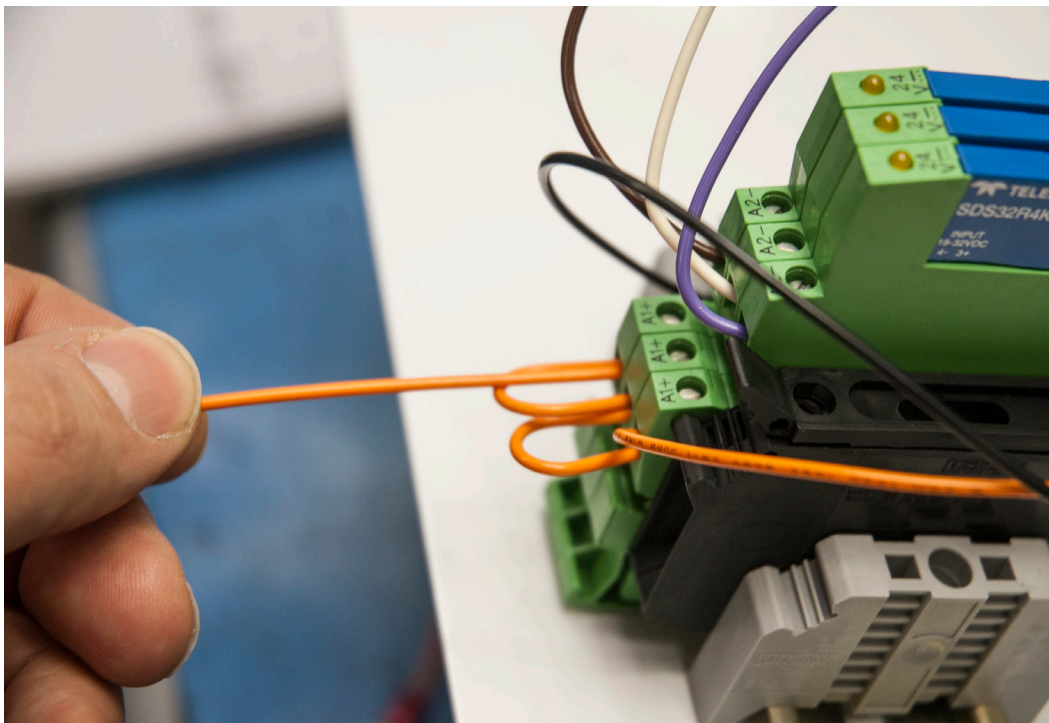

Figure 5
9. Loosen the screw on Valve 3 "A1+" terminal block and insert the small orange jumper wire (3") to the terminal block as shown in fig. 5.